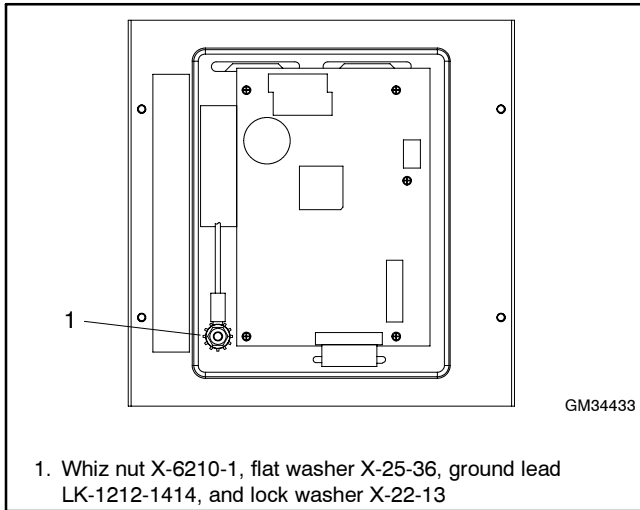

Figure 20 RSA Front Panel Assembly Ground Connection (Back View of Front Panel)
- 4.3 Attach the mounting box ground wire to the RSA front panel assembly stud by installing lock washer X-22-13, ground wire, flat washer X-25-38, and whiz nut X-6210-1. See Figure 20.